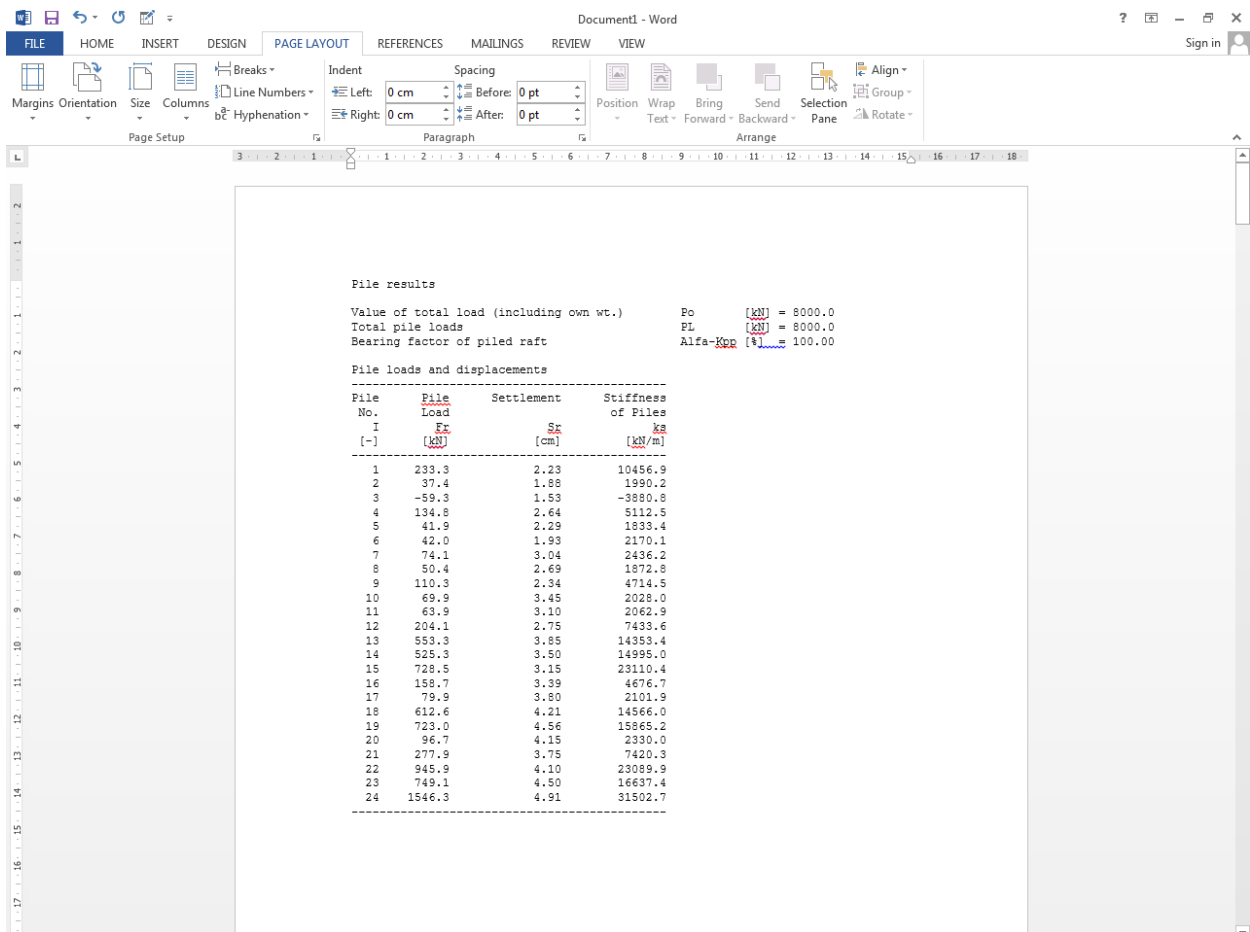

Figure 11.41 Exported results in MS Word
- Choose "Send to Word" from "File" menu if you wish to export the text to the MS Word application, Figure 11.41